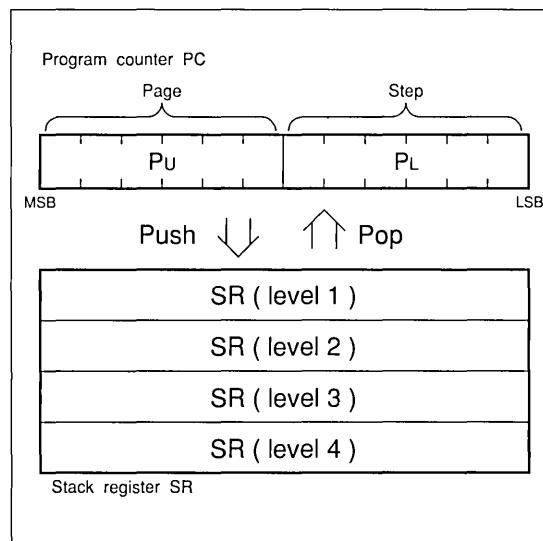

Fig. 8 Program Counter PC and Stack Register SR
A ROM address is specified by the program counter (PC). The PC comprises 12-bit where 6-bit ( $P_u$ ) are used to specify the page (see Fig. 8) and 6-bit ( $P_L$ ) are used to specify the step.  $P_u$  is a register and  $P_L$  is a binary counter.